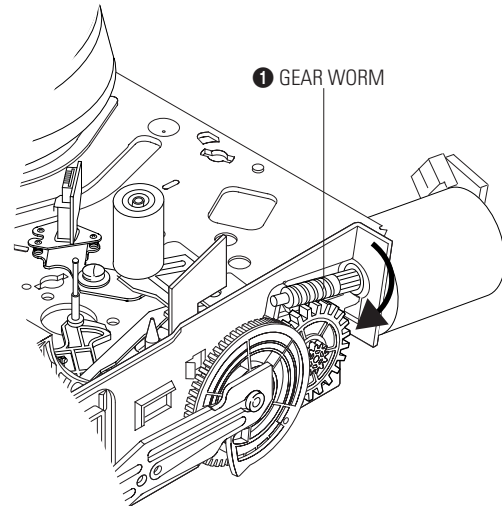

Fig. 3-33 How to Eject the Cassette Tape
- 3) Rotate Gear Worm ❶ clockwise using screw driver again up to the state of eject mode and then pick out the tape. (Refer to Fig.3-33)